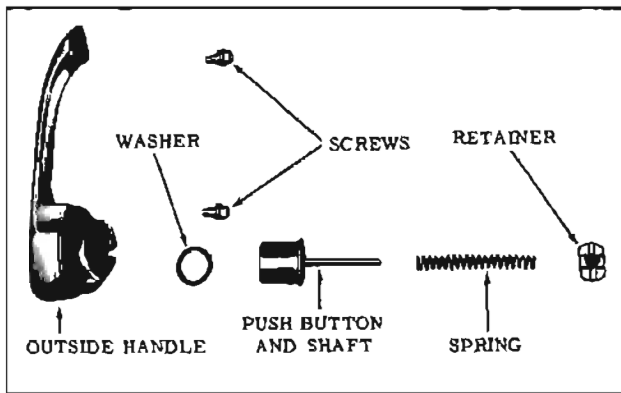

Fig. 16-32 Door Lock Spring Clip
- To assemble, reverse disassembly procedure. (Fig. 16-32)
To disengage a spring clip, use a screwdriver, or other suitable tool, to slide clip out of engagement. (Fig. 16-32)